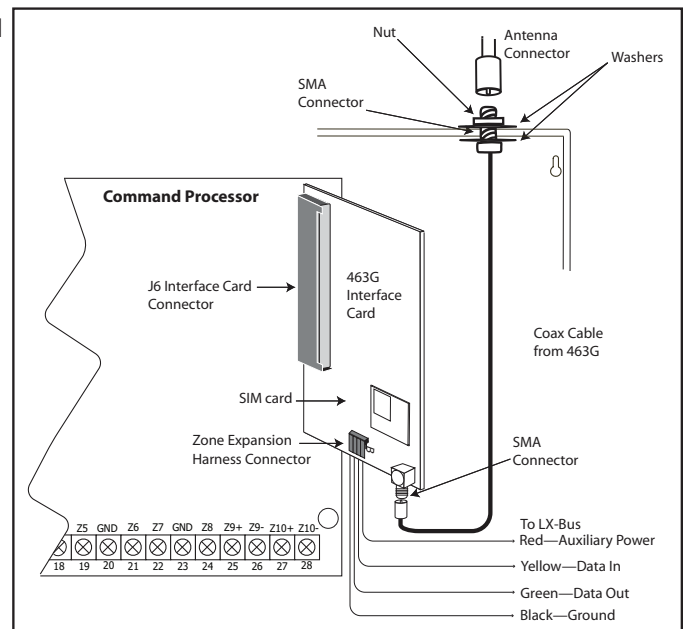

Figure 1: Install and connect the 463G and Antenna
Align the 463G card 50 pin connector with the J6 connector and press the card onto the connector while applying even pressure to both sides of the board. See Figure 1.
3. Attach the included Magnetic Mount Antenna to the SMA connector. See Figure 1.